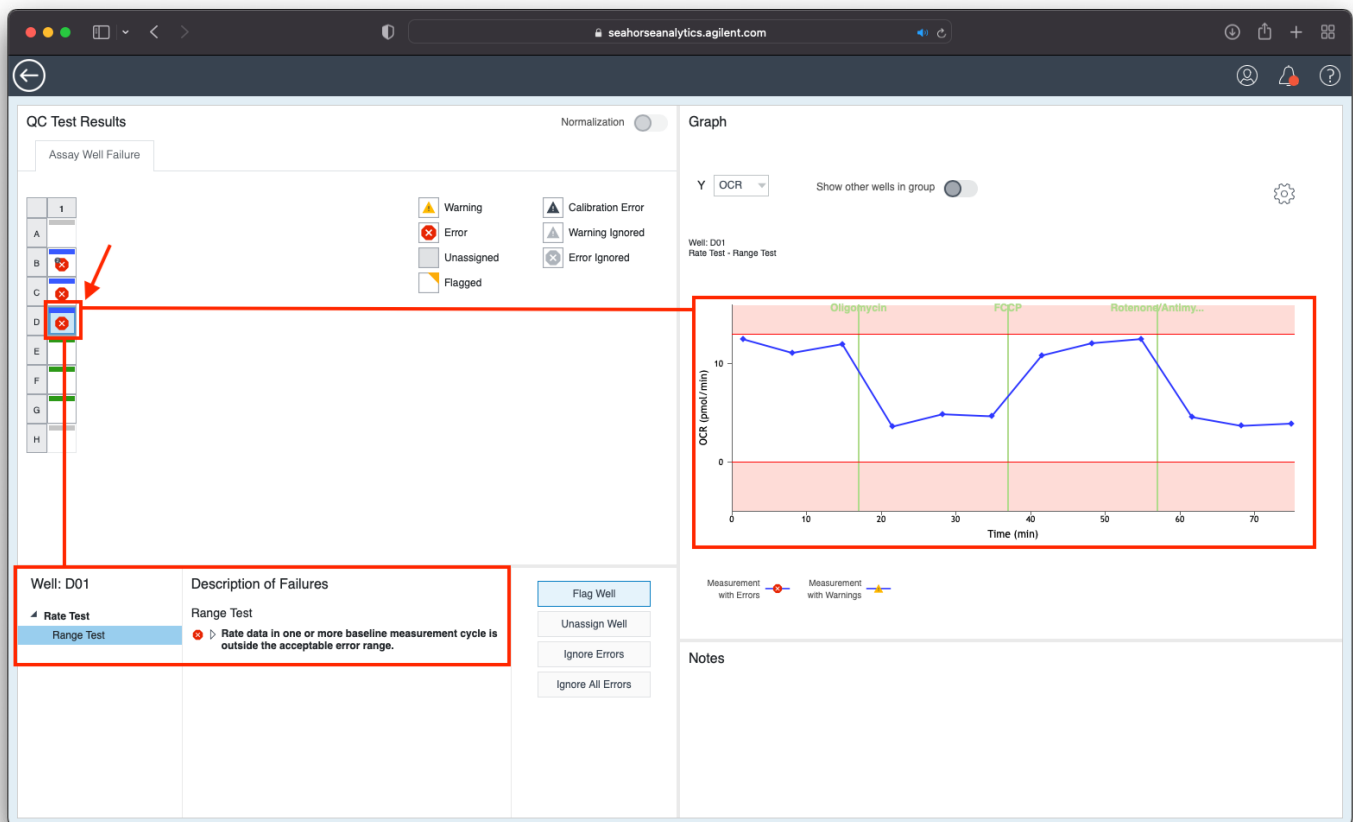

Figure 15. Kinetic graph data and a description of the problem
7. When a well contains a warning or error, click the well to display the kinetic graph data and associated warnings or error test descriptions below the plate map (Figure 15).